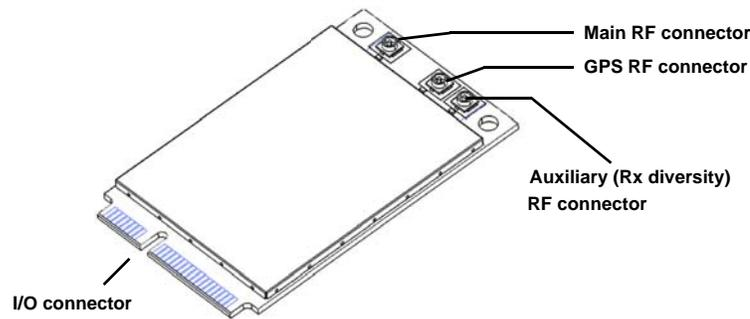

Figure 4-1: Module Connectors
- Use Hirose U.FL connectors (3 mm x 3 mm, low profile; model U.FL #CL331-0471-0-10) to attach antennas to connection points on the module, as shown in Figure 4-1 on page 24.
- Connect to system ground using the two mounting holes at the top of the module (shown in Figure 4-1 on page 24).